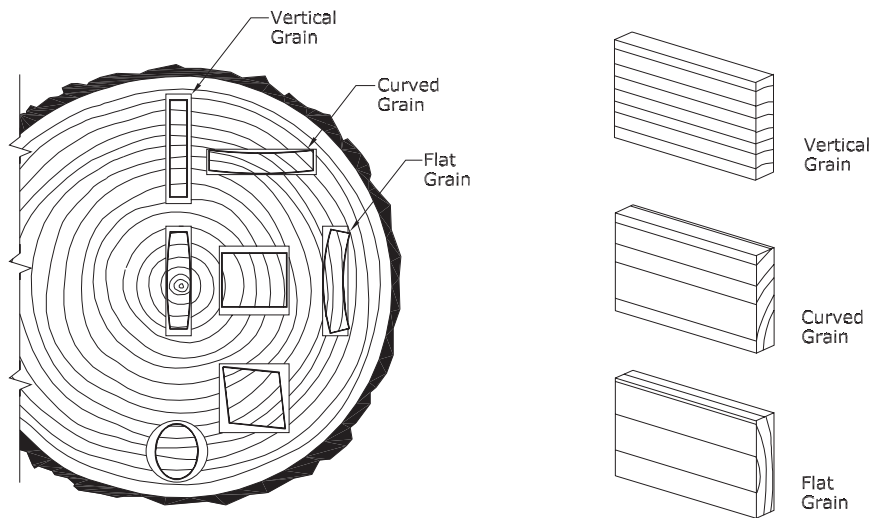

FIGURE 1
■ **Growth ring orientation:** Flat-grained, softwood lumber (typically used in most grades) shrinks and swells to a greater extent than vertical-grained lumber. Edge-grained softwoods (available at a premium price) cup less and hold paint better than flat-grained wood of the same species (Fig. 1).